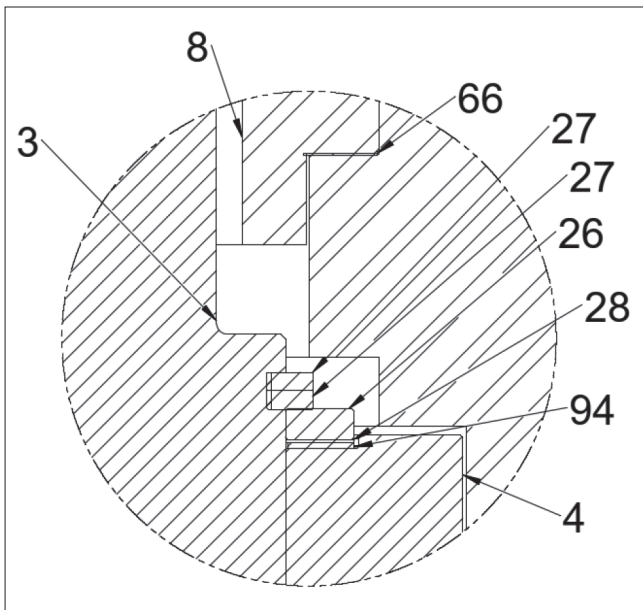

Fig. 8 Upper bearing assembly
- Lubricate the ball stem (3), trunnions integrated in the ball, and bearings (4 & 5).
- Place the trunnion bearings (4 & 5) on the ball (3).
- Install the sheet ring / thrust bearing (94) over the stem onto the stem side trunnion bearing (4), see Figure 8.
- Install the spacer ring (28) over the stem onto sheet ring (94), see Figure 8.
- Install the retaining ring (26) onto the spacer ring (28), see Figure 8.
- Install the two locking rings (27) into the groove in the trunnion bearing (4), over the retaining ring (26), see Figure 8.
- Lift the ball (3) assembled with the bearings (4 & 5) and place into the female body half (1). The bearings will ensure the ball goes into the correct position inside the body half. **Note:** The weight of the ball will compress the lower seat (7).